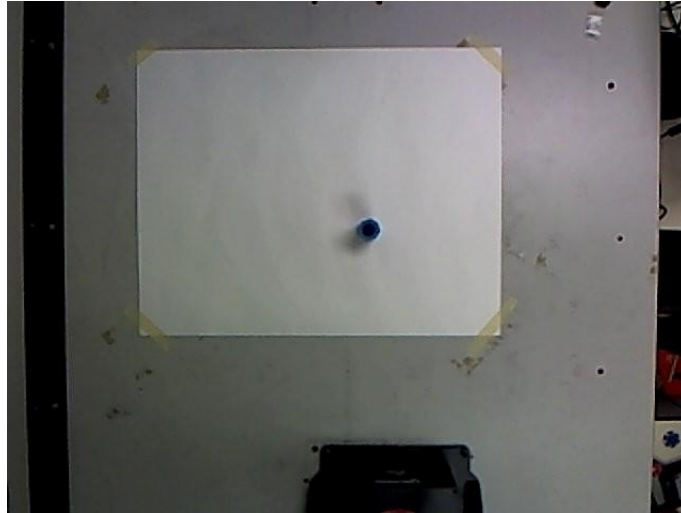

Figure 5: A sample image from the overhead camera.
- Use the **Camera** application to capture an image of the object. The image resolution is 640x480 and the field of view should be similar to Figure 5.